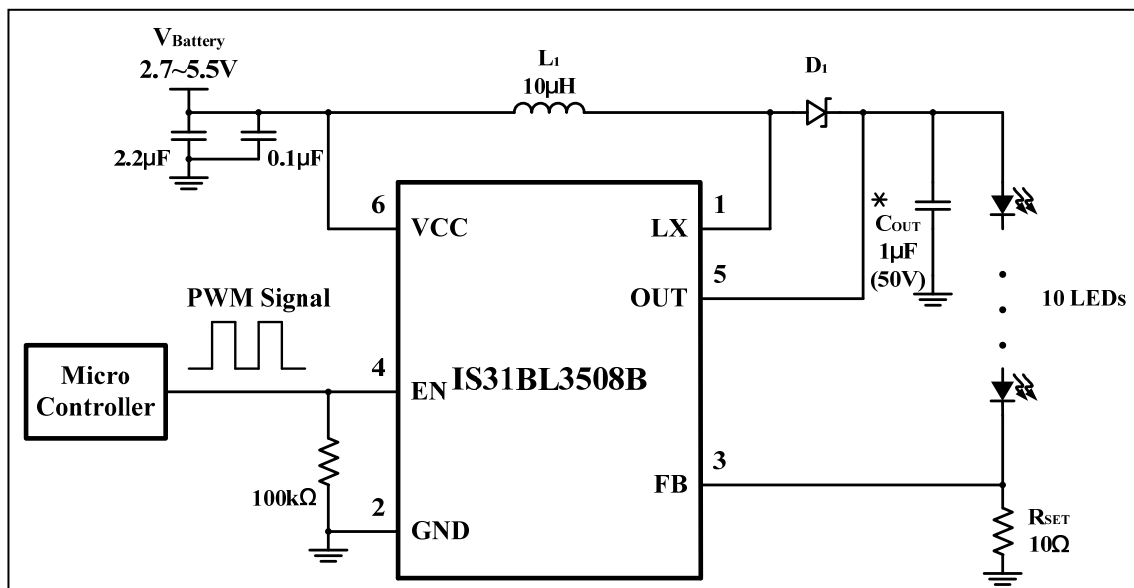

Figure 1 Constant current white LED driver using PWM at the EN pin to control intensity
The choice of the inductor value will affect the performance of the device. Large value inductors will reduce the current ripple in the inductor, thus reducing output voltage ripple. However large value inductors of the same current rating, typically also have larger DC resistance, thus reducing the system efficiency. For example in Figure 1, the loads are 10 WLEDs and output current is 20mA. The maximum input current can reach 300mA. For this application a 4.7µH or 10µH 400mA inductor is sufficient.
When the IS31BL3508B is used for LED driving applications (Figure 1), the LED current flows through the external feedback resistor RSET to regulate the LED current. The internal feedback regulation point is 0.2V. The maximum LED current may be calculated by the following Equation (1).
The EN pin of the IS31BL3508B can accept a PWM signal to implement LED dimming (Figure 1). LED current may be computed using the following Equation (2).